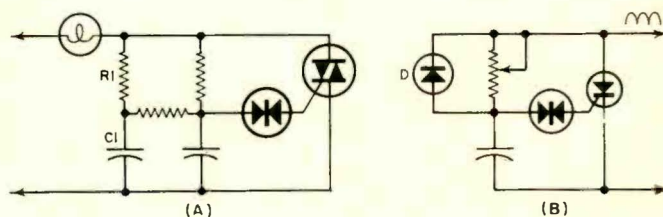

Fig. 3. Circuits employed to eliminate "jump-start" effect.
Fig. 3. (A) Typical waveforms produced by asymmetric controls. These controls add a d.c. term to the load waveform which can damage transformer-operated or inductance-limited loads. (B) Symmetric controls produce these typical waveforms. These can be used with any type of load. Note waveform "balance."